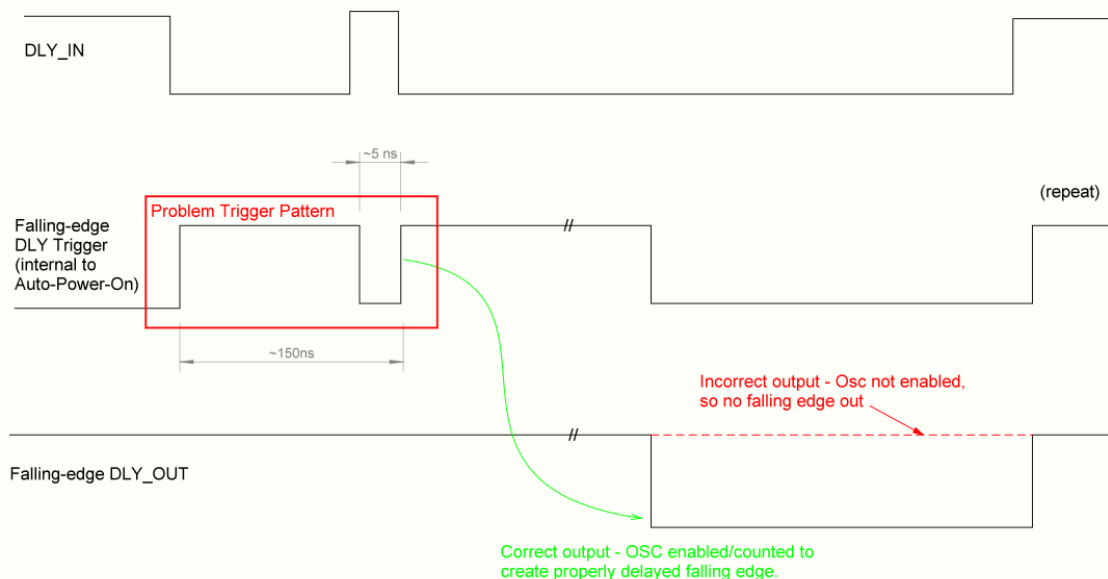

Figure 1: Problem Trigger Pattern
4. OR of OSC trigger signals from all DLYs clocked by same OSC together form a long+short glitch pattern with precise (ns) timings as shown in Figure 1. The trigger signal generation per DLY is detailed in section Description.
For this chip, the Auto Power On circuitry of the 25 kHz/2 MHz generators contains a circuit errata, which can potentially fail to power on the OSC for a specific pattern and timing of the OR of all related DLY trigger signals. The pattern is shown in Figure 1 (boxed in red) and consists of a relatively longer pulse (~145 ns) followed by a shorter (~5 ns) glitch of opposite polarity.